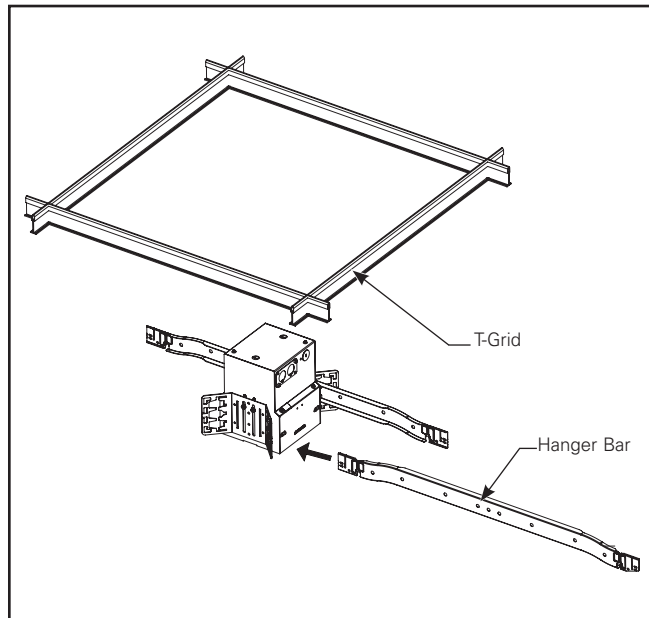

Figure 1.2.
2. Install rough-in section to T-grid or ceiling structure using butterfly mounting brackets on side of housing accommodate a range of bar hangers including C-channel and EMT (Figure 1.2 and 1.3). Bars are ordered separately. Cooper Lighting accessory bars are available: